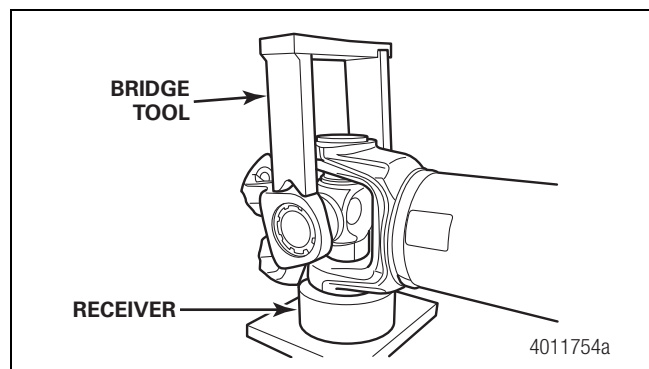
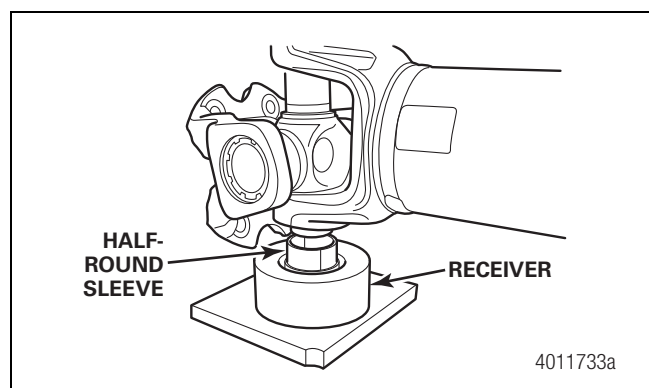

Figure 4.54
Figure 4.55
13. Install the press bridge tool and press DOWN. Remove the half-round sleeves from the trunnion and the bushing/bearing assembly from the receiver. Figure 4.54 and Figure 4.55.